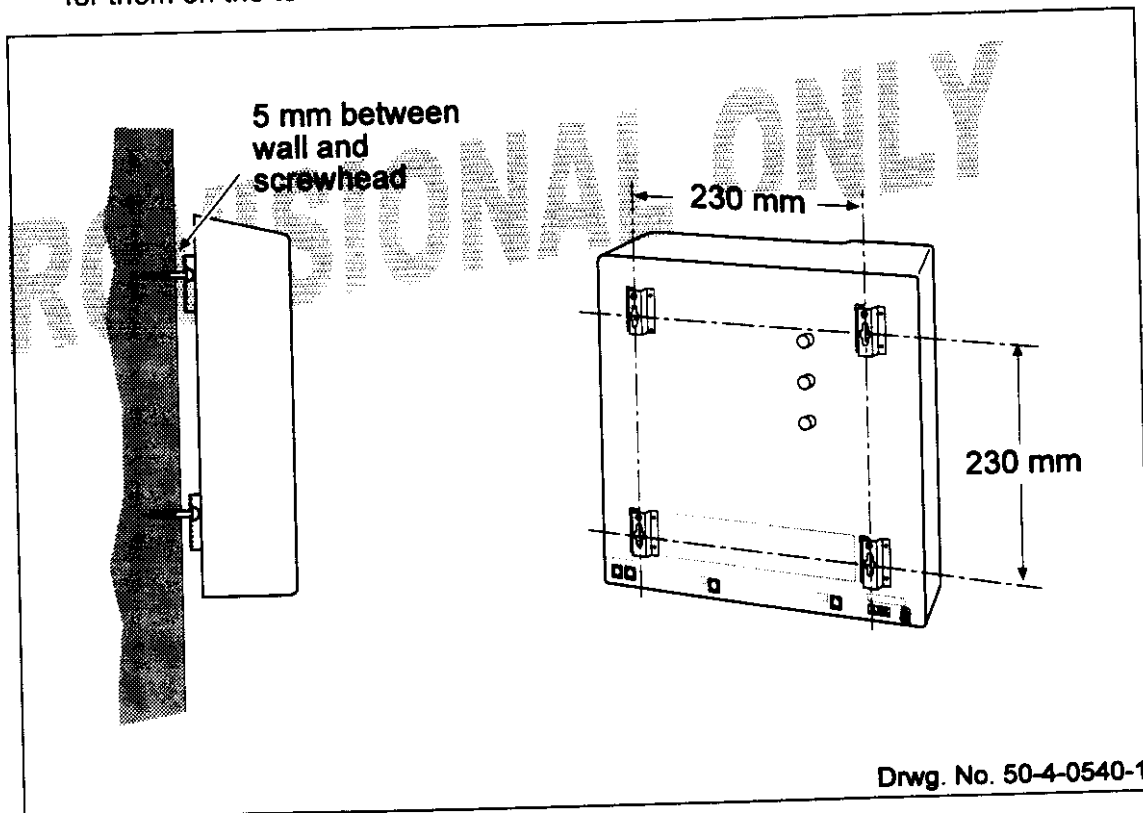

Figure 3.10: Screws for Attaching Wall Mount
- 2 Using a drill with a 3.5 mm diameter bit, drill a 20 mm deep hole at each of the positions marked in (1).
- 4 Mount the terminal on the wall by slotting the screw heads into the four holders for them on the terminal underside (see Figure 3.10). Check that it fits correctly.